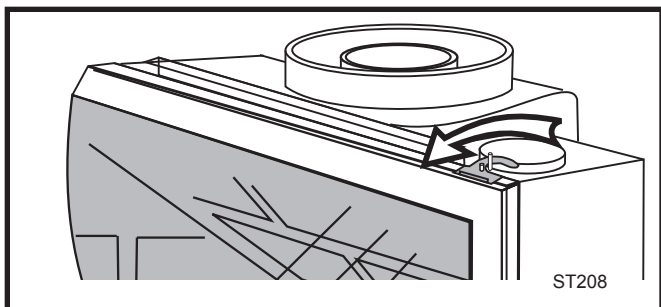

Fig. 12 Swivel the latches to release the glass frame from the firebox.
2. Swing open the swiveling latches at the top left and right corners of the glass frame. (Fig. 12)